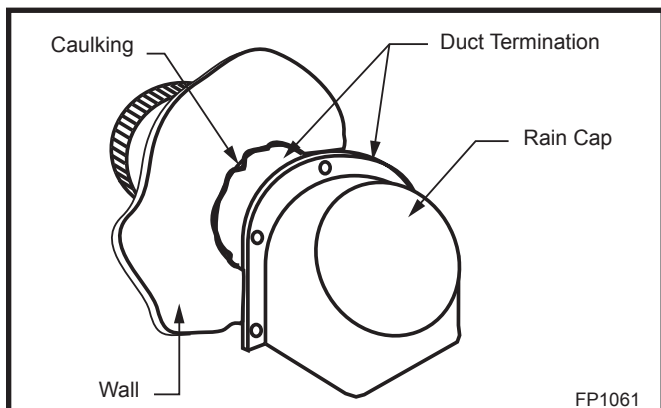

Fig. 15 Caulk and install duct termination/rain cap in place.
4. Attach the inlet collar with four (4) #10 screws to the side near the bottom of the fireplace. Slide the duct over the collar and attach the duct to the collar using the plastic tie straps or three (3) screws (screws not provided). Continue attaching the ducting together using three (3) screws at each joint until you have installed sufficient duct to arrive at your duct termination location.
5. At the termination end, install the duct termination. This should be installed from the outside of the home. Cut a hole in the desired location approximately 4½" (114 mm) diameter, caulk around the hole, and slide the termination through the opening from outside the home. The termination/rain cap should be caulked around its perimeter to assure a tight seal. The rain cap opening should be positioned downward. (Fig. 15)